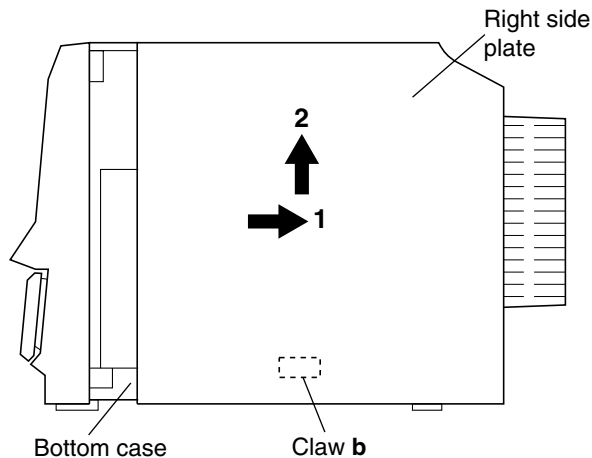

Fig.5
2. Slide the right side plate toward the rear (in the direction of the arrow **1**) until the claw **b** at the back of the right side plate is hooked by the bottom case and then lift the right side plate upward (in the direction of the arrow **2**) to remove it. (See Fig.5.)